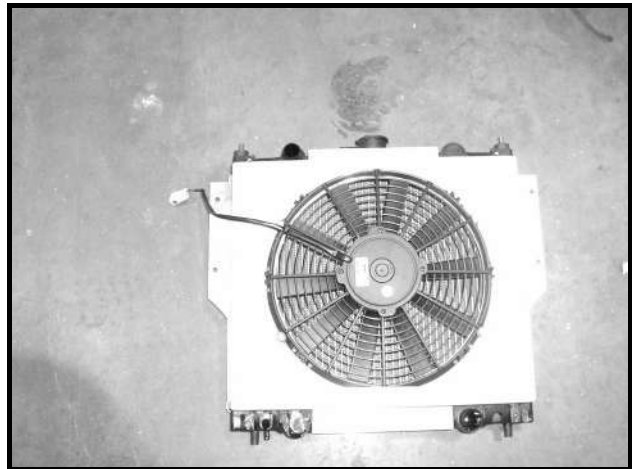

Figure 12b-18 Fan Motor
4. Remove the four bolts securing the fan to the radiator (**Figure 12b-18, Page 12b-17**).